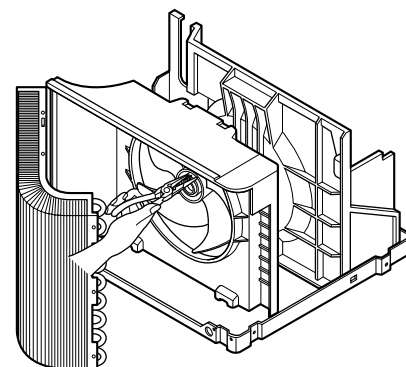

Figure 22
6. Remove the fan. (See Figure 22)